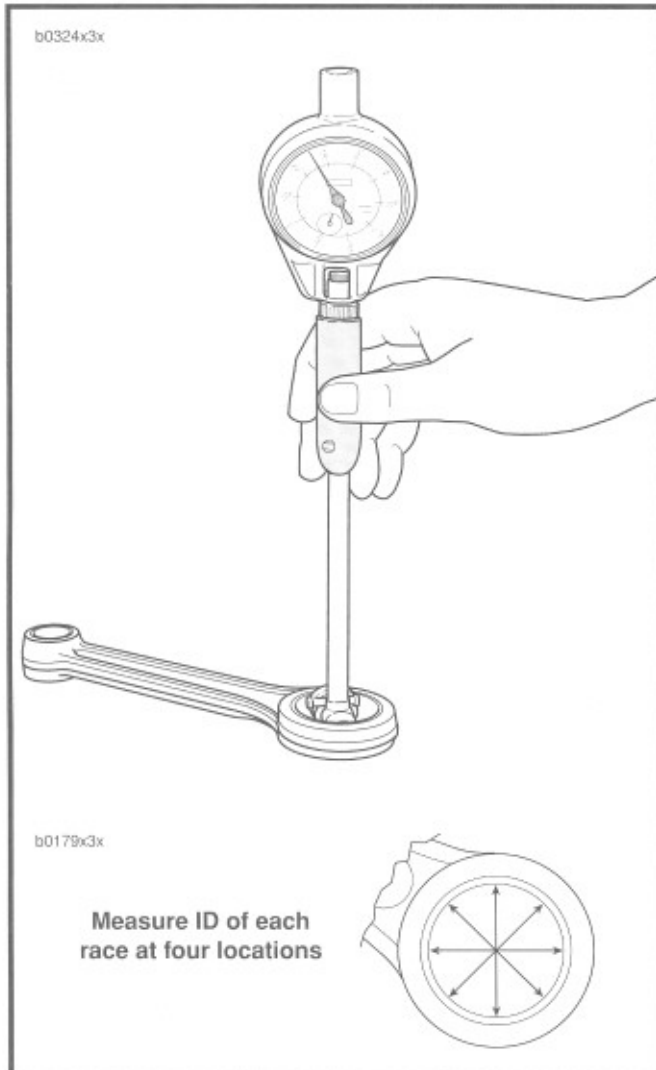

Figure 3-82. Measuring Connecting Rod Race Inside Diameter
- See Figure 3-82. Measure inside diameter (ID) of lapped connecting rod races with a dial bore gauge that has 0.0001 in. (0.0025 mm) graduations. Measure the ID at four places as shown. Record the four measurements. If any race ID exceeds Service Wear Limit of 1.6270 in. (41.326 mm), replace races or connecting rod set. If race ID measurements are less than 1.6270 in. (41.326 mm), continue procedure as follows: